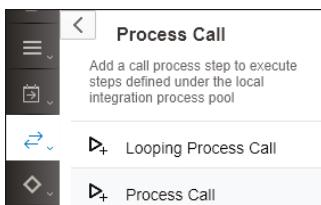

Figure 6.34 The Process Call Shape Located Under Local Call
2. Click **Local Call** to open another submenu (Figure 6.34).
3. Position the **Process Call** shape shown in Figure 6.34 inside the main process.